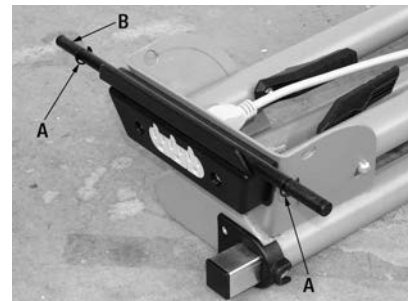

FIGURE 2B
- 1) Install a "C" clip (A) Fig.2B at each end of the wheel shaft (B) as shown.